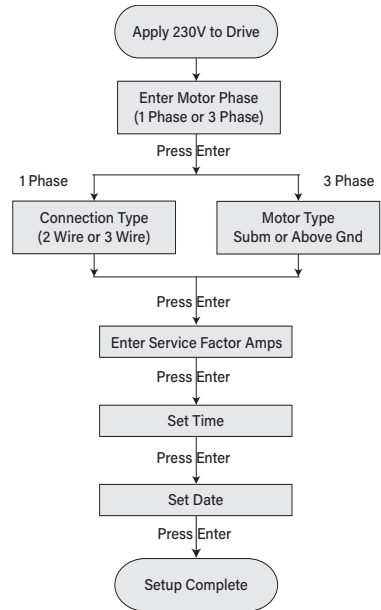

Figure 10 - Drive Setup Guide.
1. **Program the Drive:** Apply power to the PENTEK INTELLIDRIVE®. *Setup Guide* will appear in the display. Follow keypress sequence shown in Figure 10.